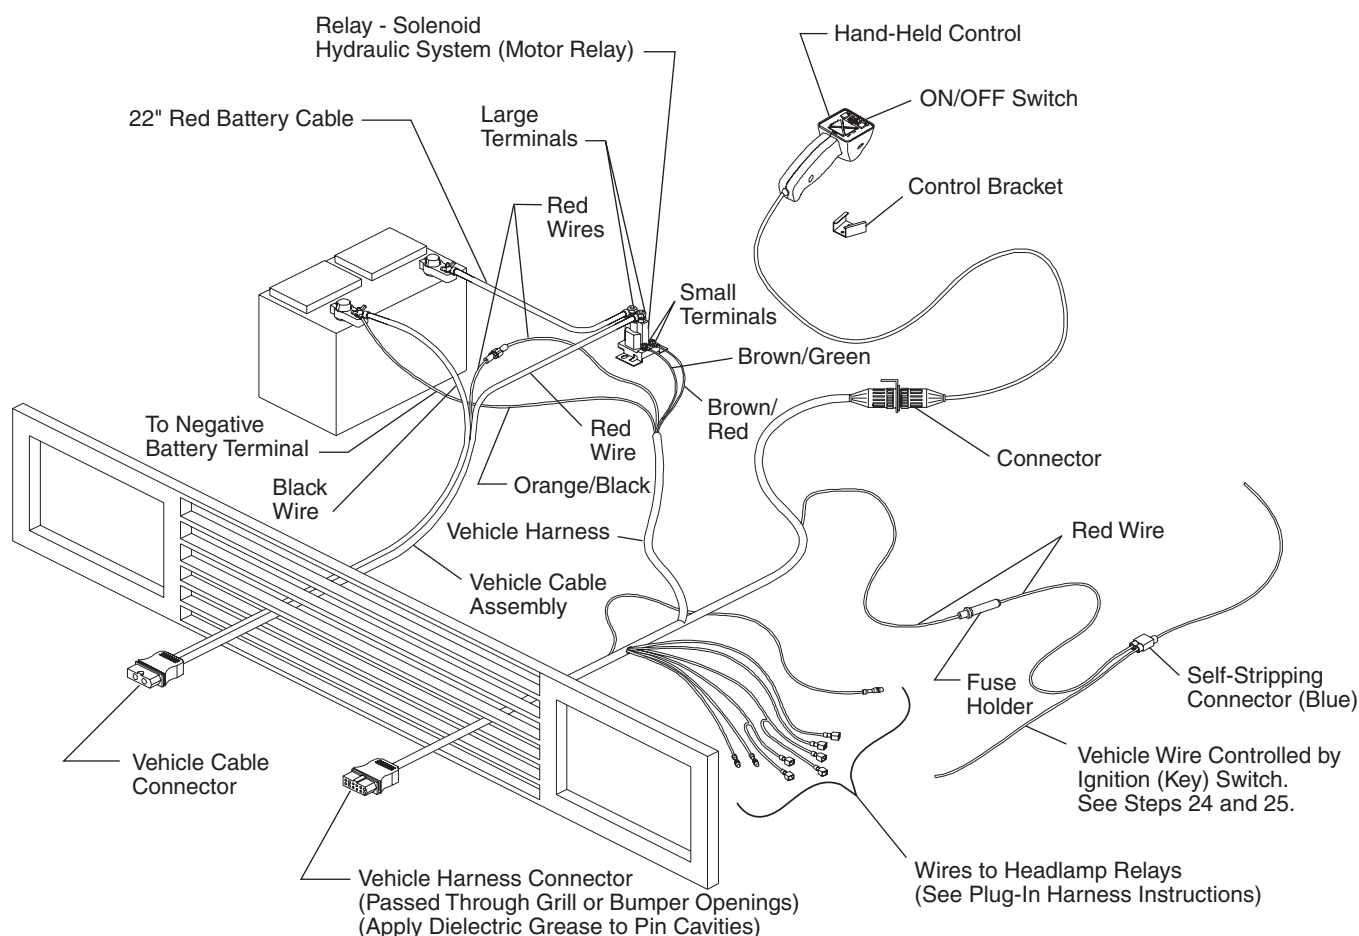

Figure 26
11. Find a location in the vehicle grill or bumper opening on the driver side for routing the vehicle harness. See Figure 26 on the previous page for routing the vehicle harness.